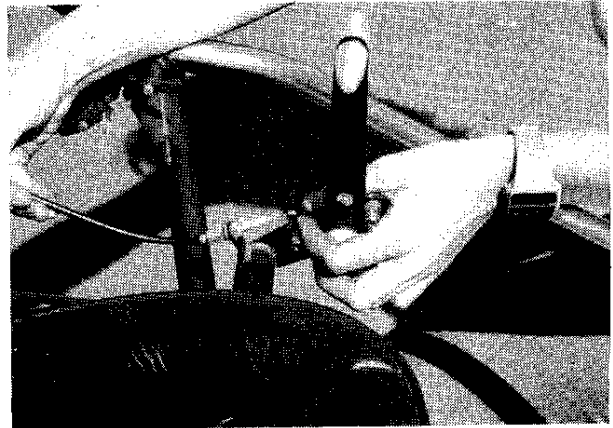

Figure 2.61
69. Route throttle cable end through conduit adjuster at base of throttle. **Figure 2.61**